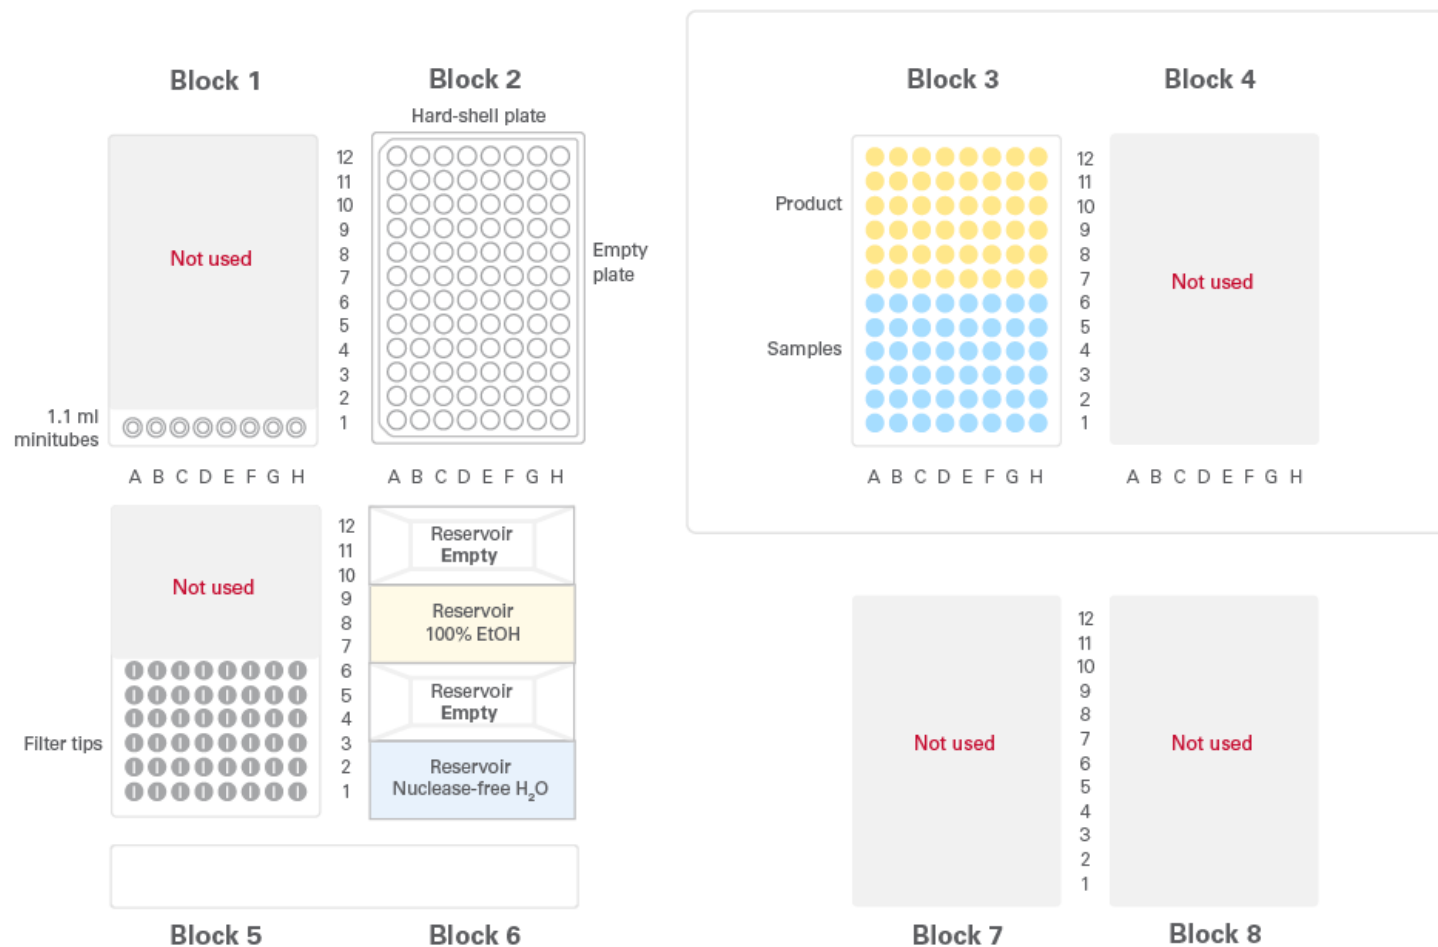

Figure 1. Deck layout for post-PCR cleanup of 48 samples. For this protocol, use script PrepX Cleanup 48. Run time is 1 hour and 45 minutes.
2. Prepare up to 16 strips of 6-well strip tubes by cutting two tubes from 16 8-tube strips and trimming the resulting plastic overhangs. The samples and reagents must be distributed in sets of six to be in the correct orientation for processing up to 48 samples (Figure 1). **Do not use 8-tube strips instead of 6-tube strips.**
3. Load consumables onto the Apollo system work surface according to the layout in Figure 1. First, load the consumables that do not initially hold reagents (table above). Just before the run, load the consumables containing reagents, but not samples, onto the system.
4. When the **Cooling** indicator has disappeared, and the **Run** button has appeared, load the samples according to the touch screen and the layout shown in Figure 1.